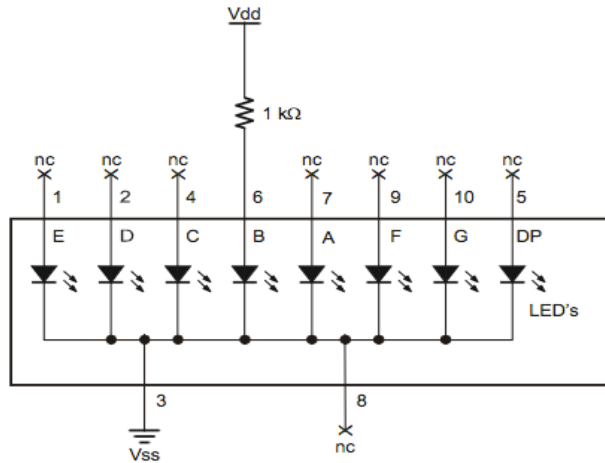
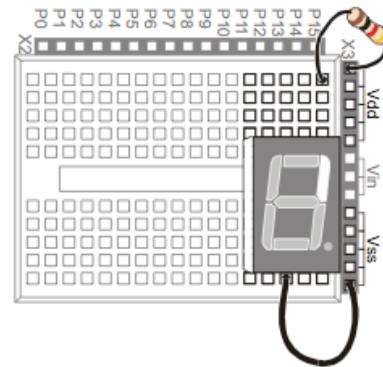

Figure 3.8: Test Circuit Schematic for Segment "B" LED display
Figure 3.9: Test Circuit Wiring Diagram for Segment "B" LED display
- Disconnect power, and modify the circuit by connecting the resistor to the B LED input as shown in Figure 3.8 and Figure 3.9.